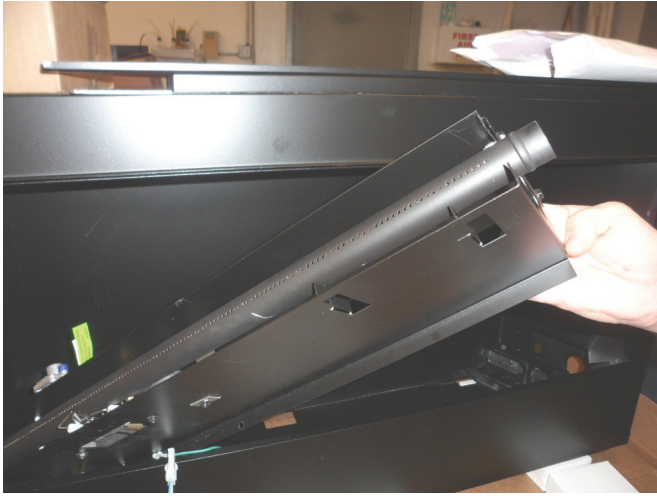

Figure 19
3. Lift the complete burner and valve assembly upward, then turn it sideways in fireplace opening to gain easy access to the junction box. **See Figure 19.** You may remove the complete burner and valve assembly as shown in **Figure 19.**